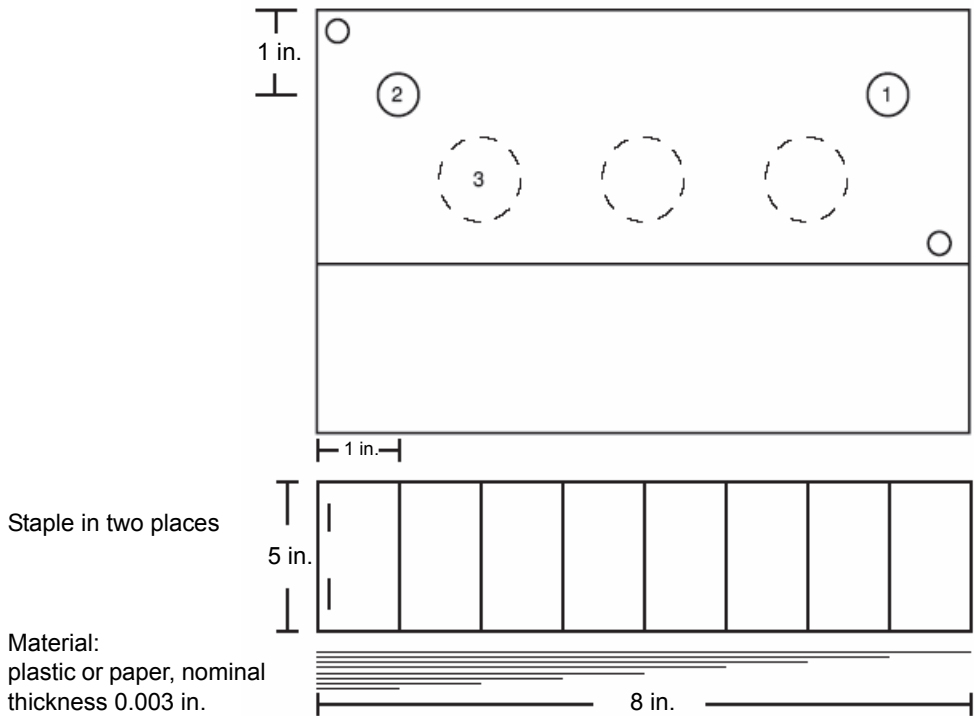

Figure 4-8 Olympus 127-.063 corrosion standard
8. Place probe on the corrosion standard at position 1 and press the **NULL** soft key (see Figure 4-8 on page 82).